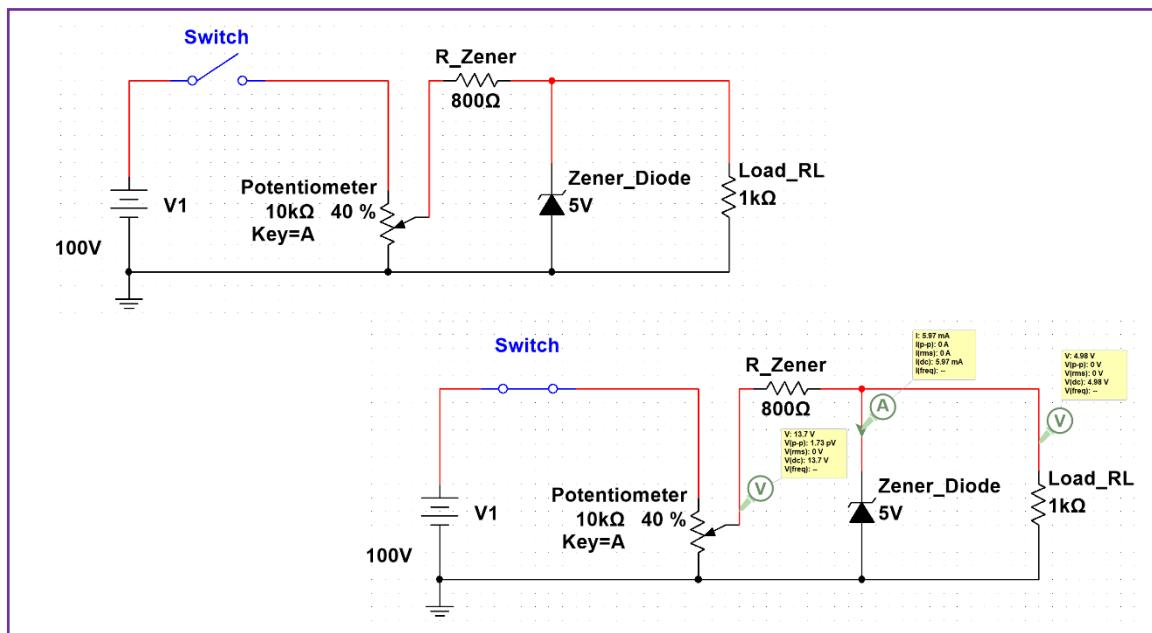

Fig 3.1: Circuit Diagram Showing Zener Diode Based Voltage Regulator Circuit Connected in MultiSim Software
- Make the circuit connection as per the Fig. 3.1.